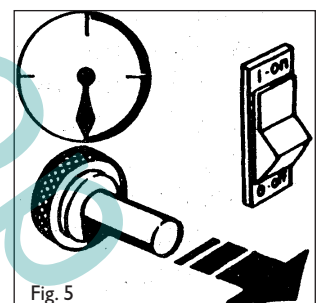

Fig. 5
- As the flame lights up, keep the valve button pushed for 10 seconds approx. (Fig.5). Should the heater stop when the valve button has been released, wait one minute and repeat the starting operation keeping the valve button pushed for a longer time.